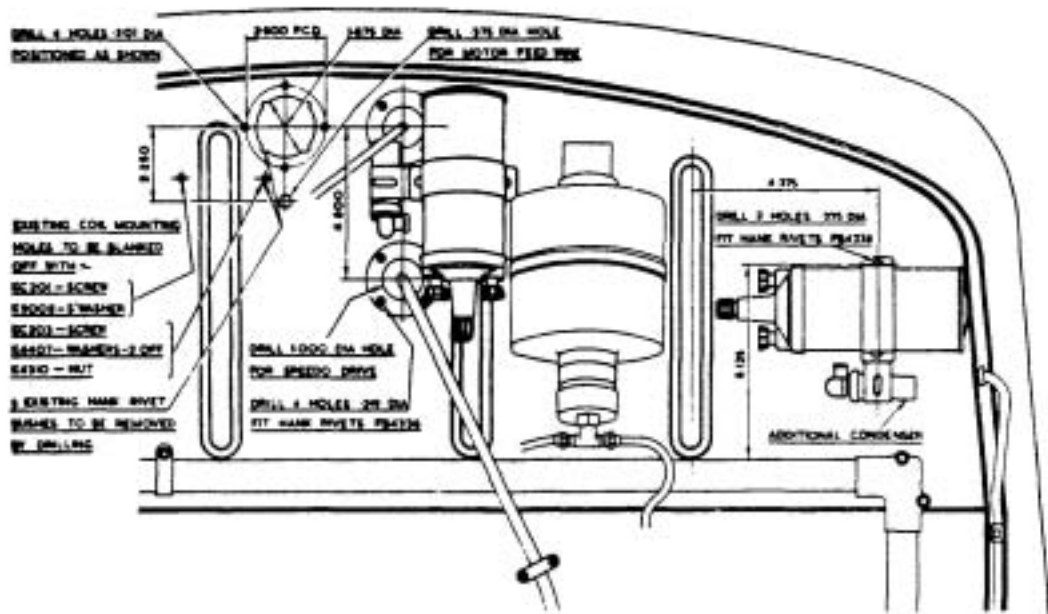

FIG. 4. INSTRUCTIONS FOR DRILLING DASH.
- 6) Refit the speedometer cable through the dash by marking off and drilling a hole 1.00" dia. at a point 4.600" directly below the centre of the left-hand aperture carrying the thermometer capillary tube as shown in Fig. 4.
- 7) On chassis where both ignition coils are mounted side by side on the dash above the engine, the right-hand coil should be removed and then refitted on the left-hand side below the Chassis Name Plate as shown in Fig. 4, using the two Hank rivets provided. Fit the additional radio suppressor below the coil as shown, and connect the wire to the INPUT (or lower) terminal. Drill out the original left-hand coil bracket Hank rivet bush, and then drill another hole in the position shown for the demister motor feed wire grommet.